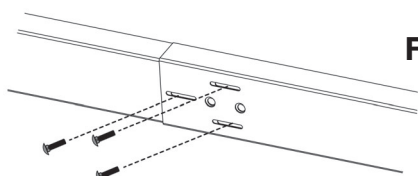

Fig. 2
2. Insert the 3 supplied bolts (Type 2) through the 3 slots (**Fig. 2**).